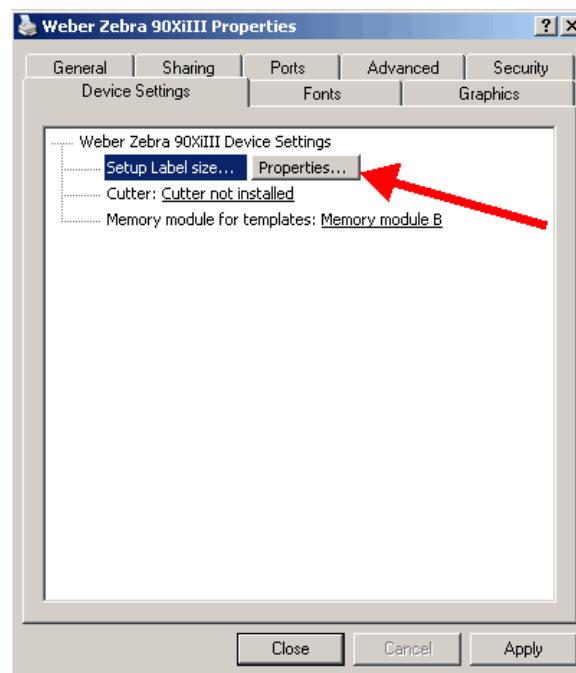

Figure 29
33. Click on the Properties button for the Setup Label Size option. (Figure 29)